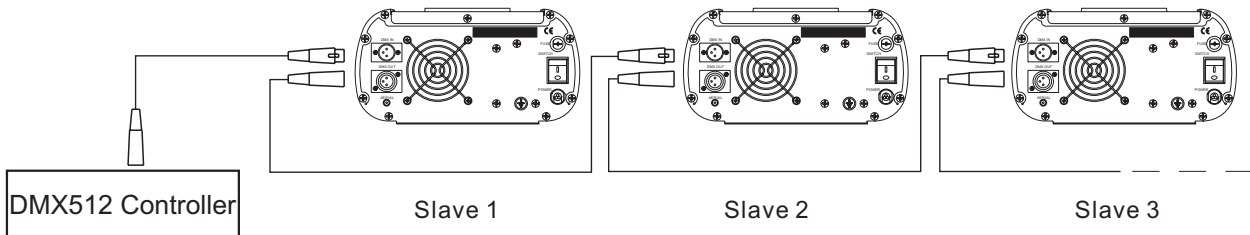

Fig.3
- ① If you need Master/Slaves change color synchronously, please set all of slaves into”001”;
- ② If you need Master/Slaves chase to change color, please set slaves into “006”,”011” and so on (add “5” one after another) .
3.The connection of DMX Signal Control Mode(See Fig. 3):